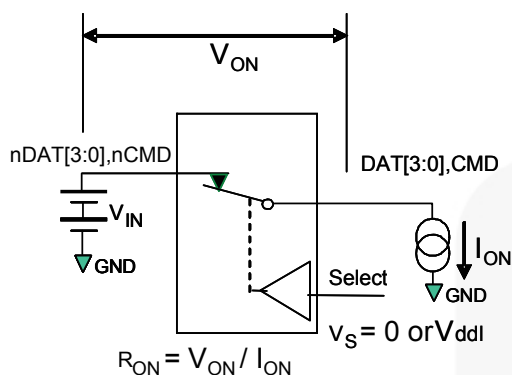

Figure 5. On Resistance
| $R_{ON}$               | Switch On Resistance (4)                   | 2.7                       | $V_{CMD, DAT[3:0]} = 0V$ , $I_{ON} = -2mA$ ,See Figure 5                                                 |                                        | 4    | 6    | $\Omega$   |
| $R_{ON}$               | Switch On Resistance (7)                   | 2.7                       | $V_{CMD, DAT[3:0]} = 0V$ , $I_{ON} = -2mA$See Figure 5                                               |                                        | 2.5  | 6.0  | $\Omega$   |